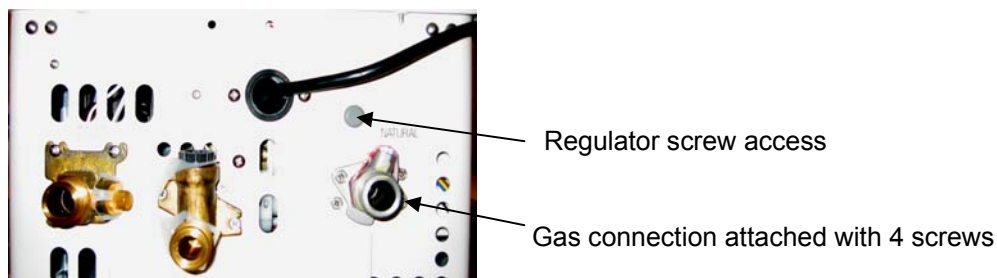

Figure 2
9. Remove the four screws attaching the gas connection to the underneath side of the water heater. Figure 2.